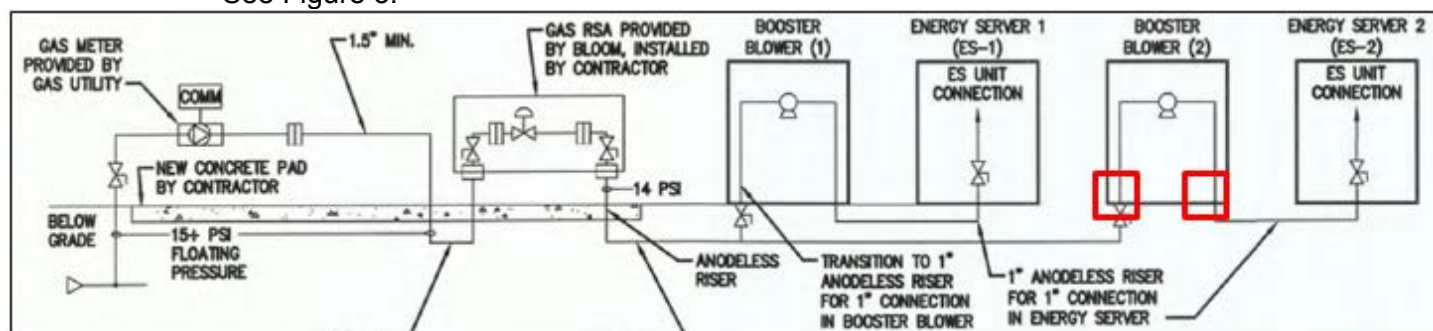

Figure 3
- a. If a YBB, reach out to the Construction Program Manager. Future instructions will go here. See Figure 3.